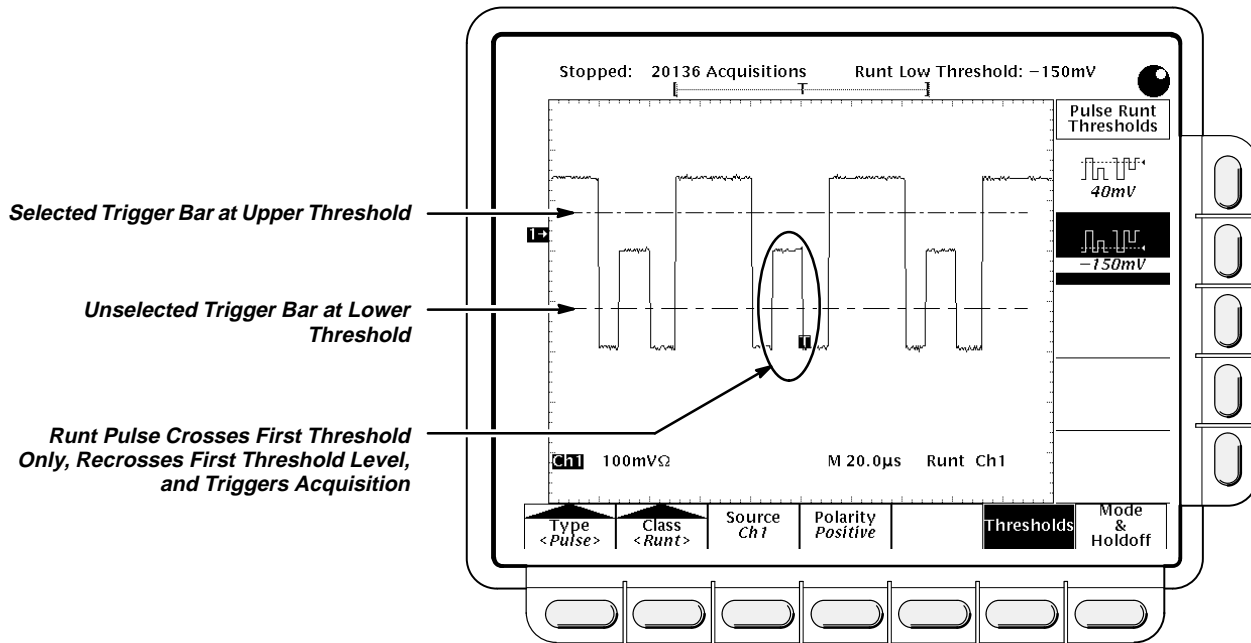

Figure 3-63: Main Trigger Menu—Runt Class
1. Press **TRIGGER MENU** → **Type** (main) → **Pulse** (pop-up) → **Class** (main) → **Runt** (pop-up) → **Source** (main) → **Ch1, Ch2, Ch3 (Ax1)** on the TDS 620A & 524A), or **Ch4 (Ax2)** on the TDS 620A & 524A) (side). (See Figure 3-63.)
Note the position of the trigger indicator in Figure 3-63. Triggering occurs at the point the pulse returns over the first (lower) threshold going negative without crossing the second threshold level (upper). Be aware of the following considerations when using Runt triggering: